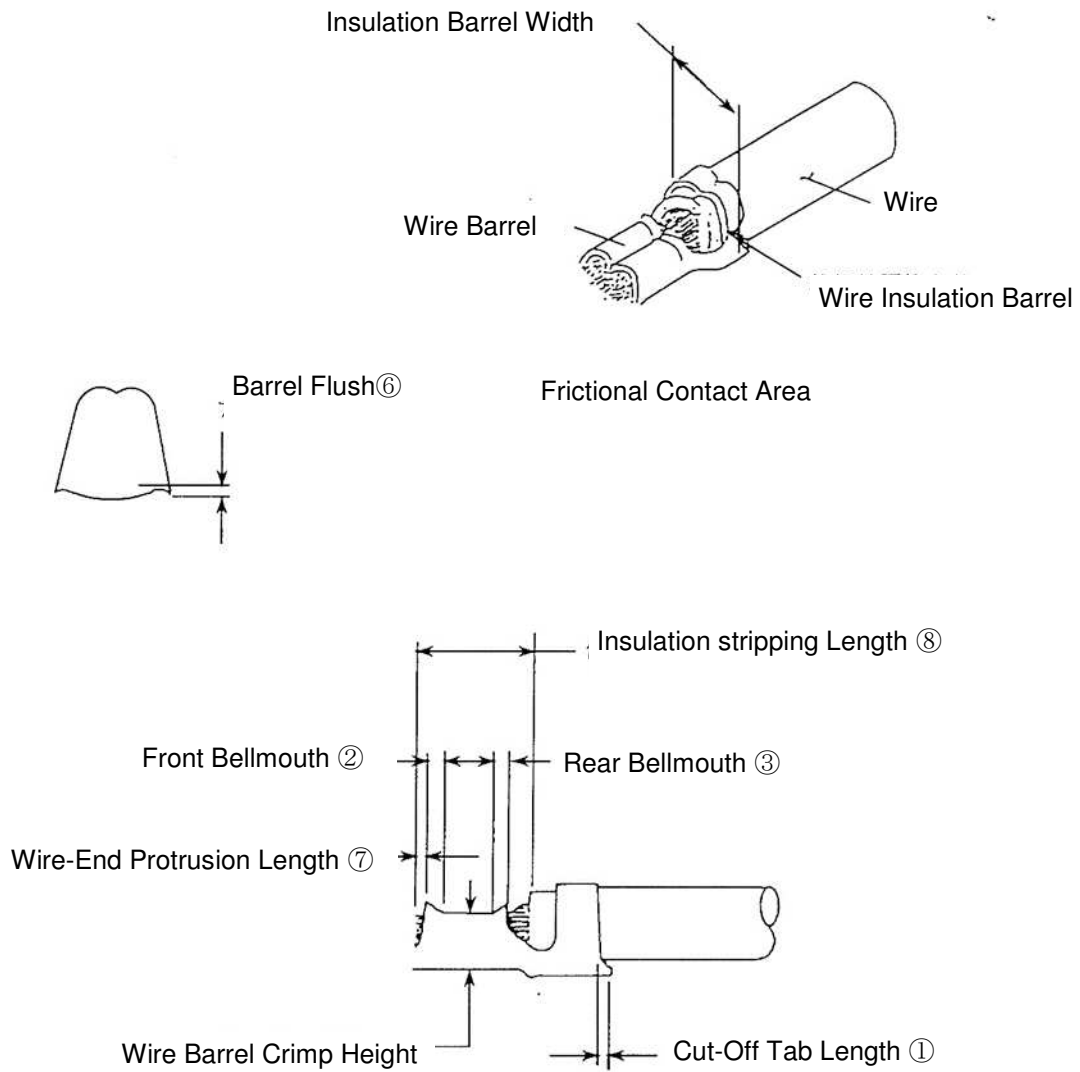

Fig.1
Rear	0.1~0.6mm (L,M Type) 0.9~0.6mm (S Type) Fig.1 ③